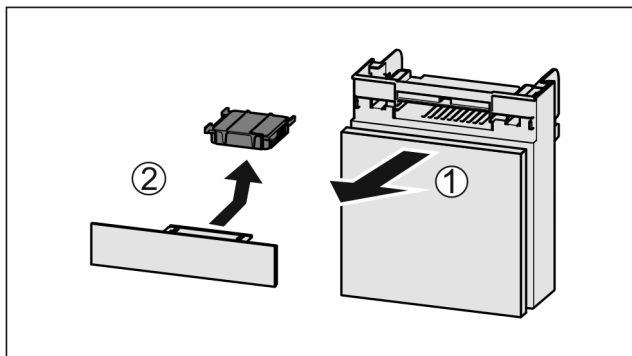

Fig. 56
- Pull out the compartment Fig. 56 (1).
- Remove the carbon filter Fig. 56 (2).